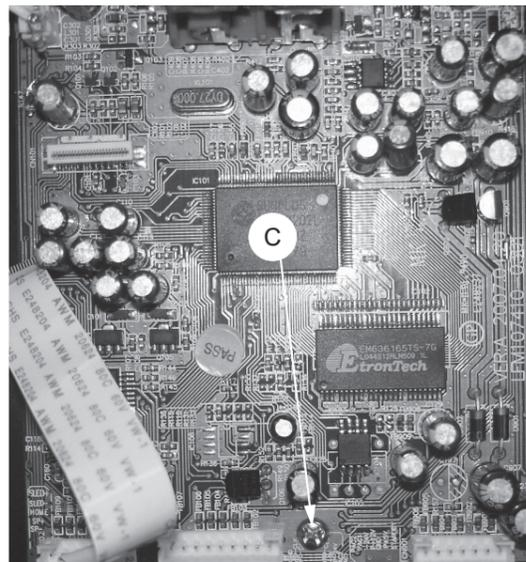

figure 3
- 2) Loosen 1 screw "C" at the Main Board as shown in figure 3.